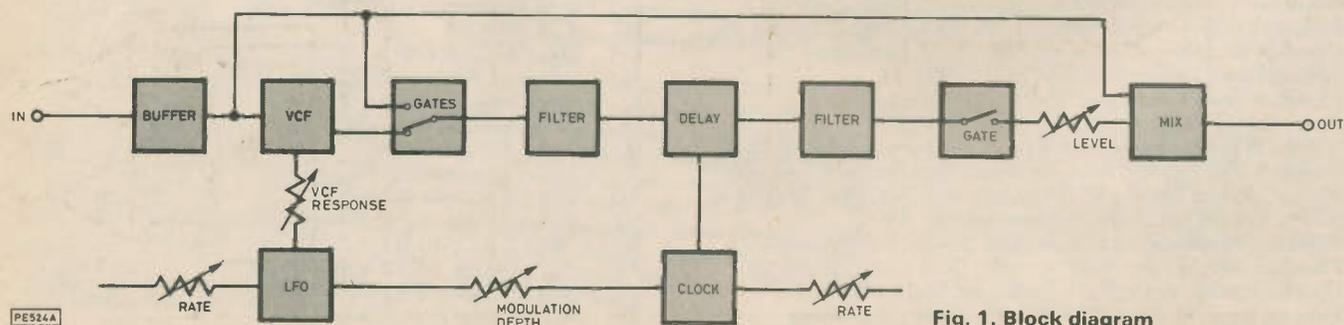

Fig. 1. Block diagram
**A**N ENHANCED phasing effect is produced in this unit by passing a music signal through modulated voltage controlled filter and delay line stages, then mixing this processed signal with the original at the output. The rate and depth of modulation, the v.c.f. response and mixing balance are panel controlled. The v.c.f., phase and by-pass modes are selected via electronic gates for quiet switching. It may be used with most electronic musical instruments or pre-recorded sources. A block diagram is given in Fig. 1.